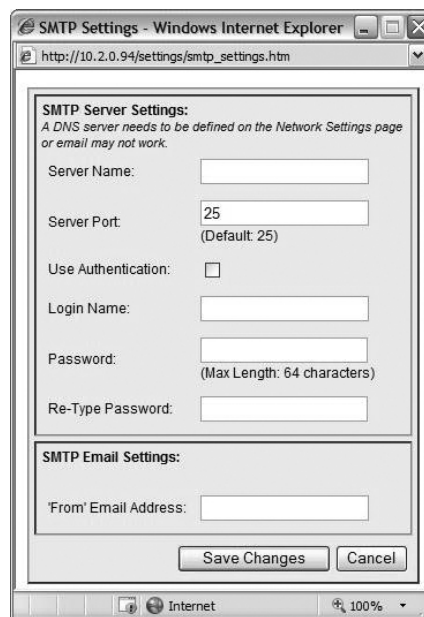

Figure 3-13a: Settings > Contacts > Email Tab > SMTP Server Settings
2. If SMTP authentication is required, obtain the authentication information from your network Administrator (see Figure 3-13a).